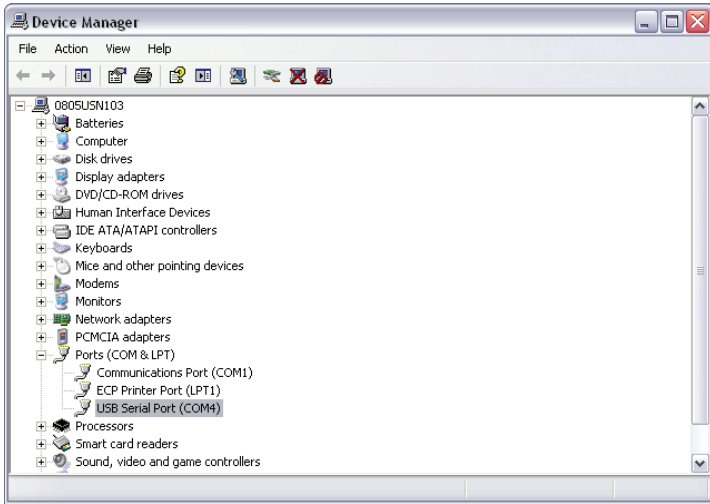

Figure 22. Device Manager Ports (COM & LPT)
- Expand the 'Ports (COM & LPT)' to find out which com port is being used by the USB modem, as seen in Figure 22.